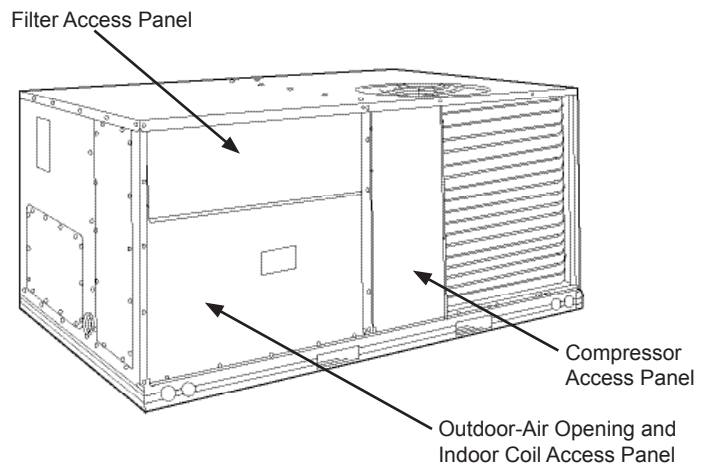

Fig. 2 - Typical Access Panel Locations
2. Remove the existing unit filter access panel. Raise the panel and swing the bottom outward. The panel is now disengaged from the track and can be removed. (See Fig. 2.)
3. Remove the indoor coil access panel and discard. (See Fig. 2.)